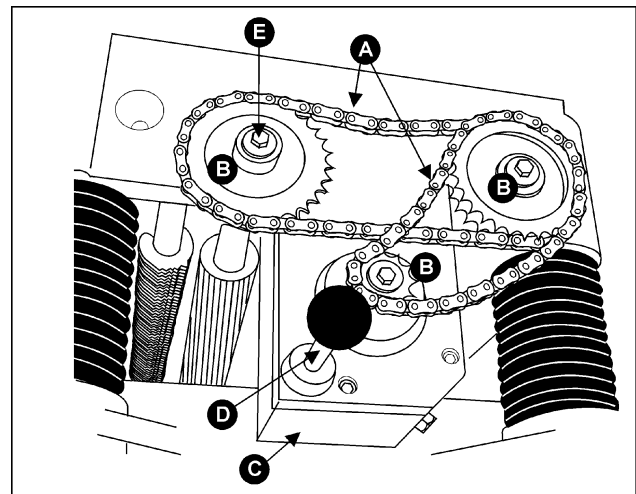
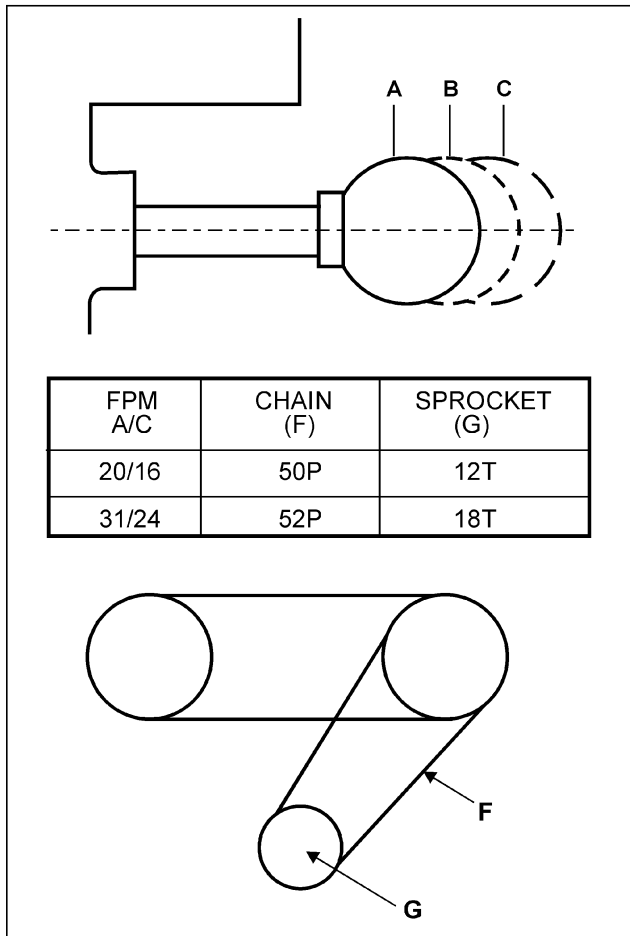

Fig. 29
Fig. 30
Your machine is equipped with a spiral, serrated infeed roller and a solid steel outfeed roller. When the feed rollers are engaged, they turn to feed the stock. The feed rollers slow automatically when the machine is under heavy load for best planing in all conditions. The feed rollers are driven by chains (A, Fig. 29) and sprockets (B, Fig. 29) which take power directly from the cutterhead through the oil bath gear box (C, Fig. 29).
The gear box has two feed speeds. These are set by pulling out or pushing in the shift lever (D, Fig. 29) while the machine is running. The feed speed range is shown in Figure 30.
The lowest feed speeds for your planer (16.2 fpm and 20.7 fpm) can be obtained by replacing the lower (gear shaft) sprocket and its chain (Fig. 30). A low speed gear kit, consisting of a 50P chain and 12T sprocket, is provided with your planer.
2. Remove the three hex cap screws and washers (E, Fig. 29).
3. Remove the three sprockets (B, Fig. 29) from the infeed roller, outfeed roller and the gear shaft at the same time.
4. When all sprockets have been removed, replace the gear shaft sprocket (G, Fig. 30) and its chain (F, Fig. 30) with those of a different size.
5. Mount all three sprockets and chains to their shafts, and tighten all hex cap screws and washers (E, Fig. 29).